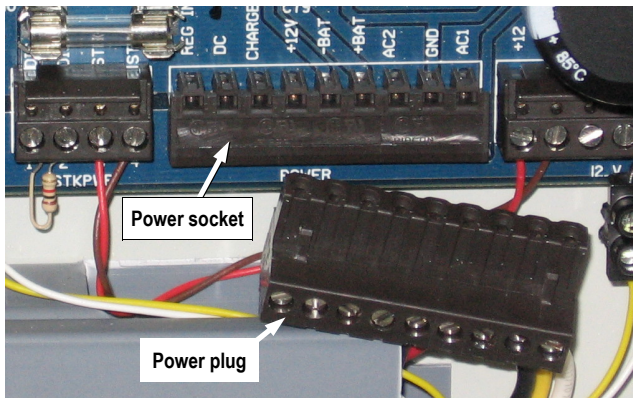

Fig. 1: Push POWER plug connector downward until removed.
1. Inside the panel housing, remove power from the main PCB by pushing the POWER plug connector (located on the lower right of the PCB) downward until the connector is completely separated from the PCB. Do not disconnect the battery wires. See Fig. 1, below.